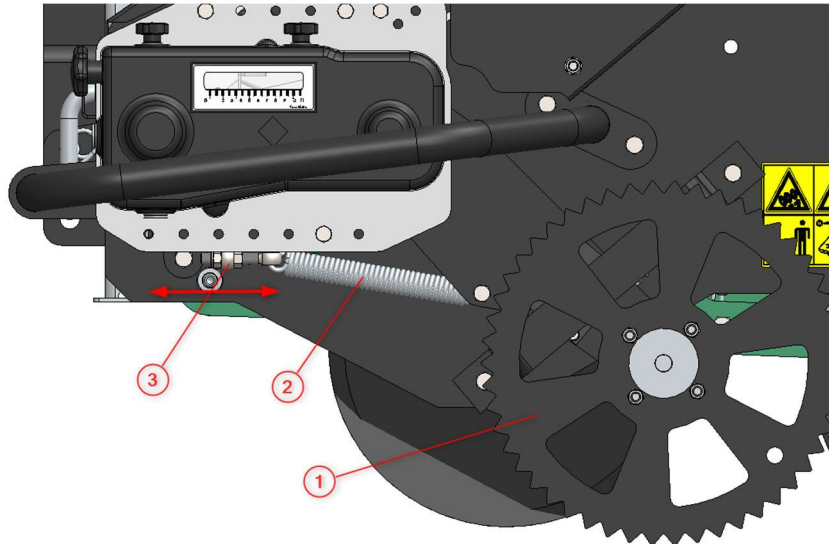

Fig. 13
When the side wheel (1) is leaving marks or has not enough grip to drive the Genesis seeder it is possible to adjust the spring (2) its tension to gain the right results. (Fig.13)